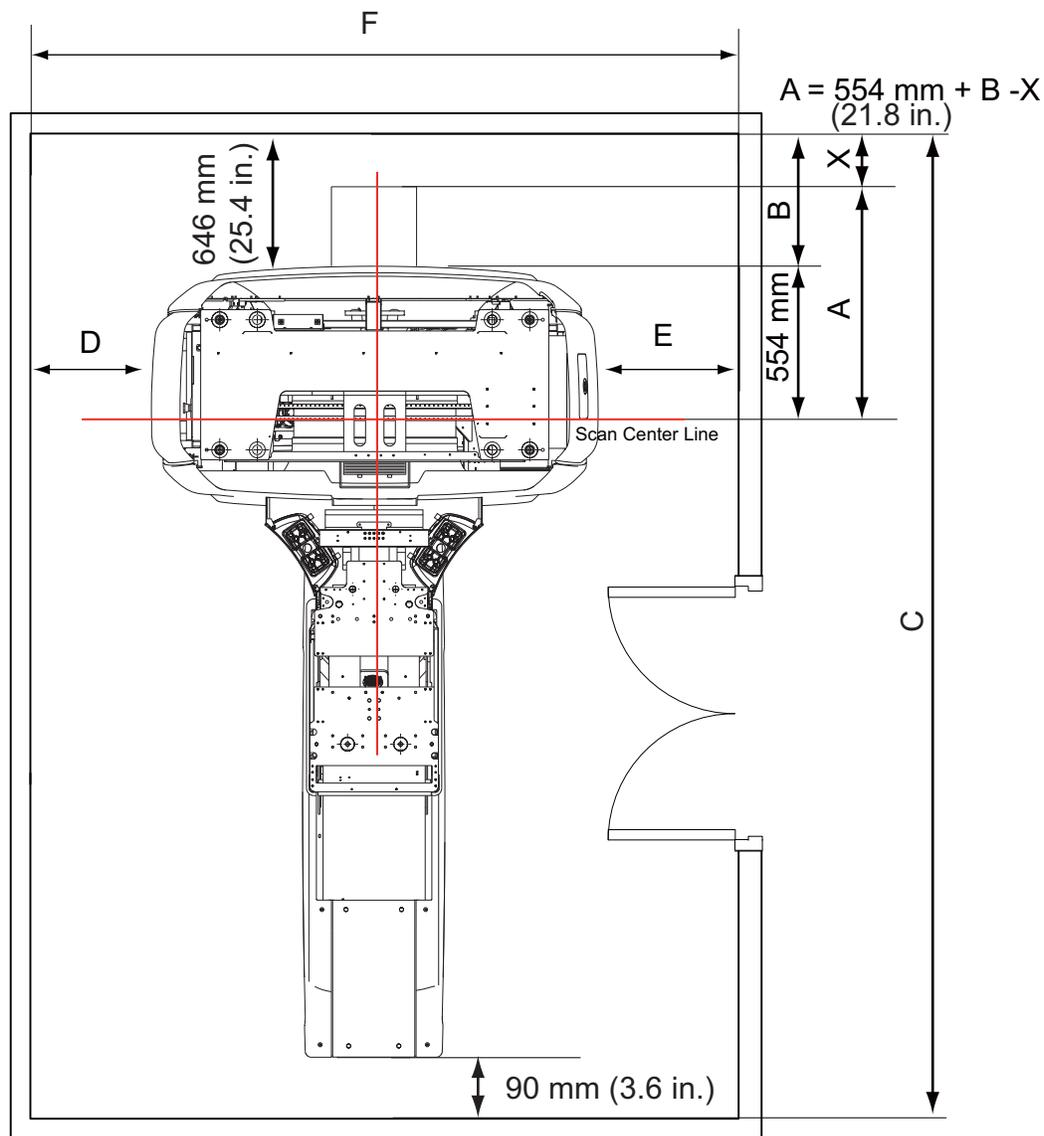

Figure 6-4 Short Footprint Calculation diagram (without extender)
- 1.) Refer to Figure 6-4, use floor template with ruler to prearrange the layout and calculate the cradle scannable limitation (A).
- 3.) Record the distance from cradle limitation to wall (X) and cradle scannable limitation (A) for installation.